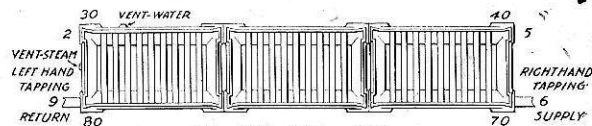

Fig. 511, 711 or 911.
**K**EY to Figure Numbering—Orders should refer to figure number showing assemblage. (See pages 56 to 60.) The first numeral in each of the following figure numbers indicates the size of section, thus: Fig. 511 means 5-foot sections arranged in the manner as shown in sketch above the number; Fig. 711 refers to 7-foot sections and to the same assemblage; and Fig. 911 refers to 9-foot sections and to the same assemblage.